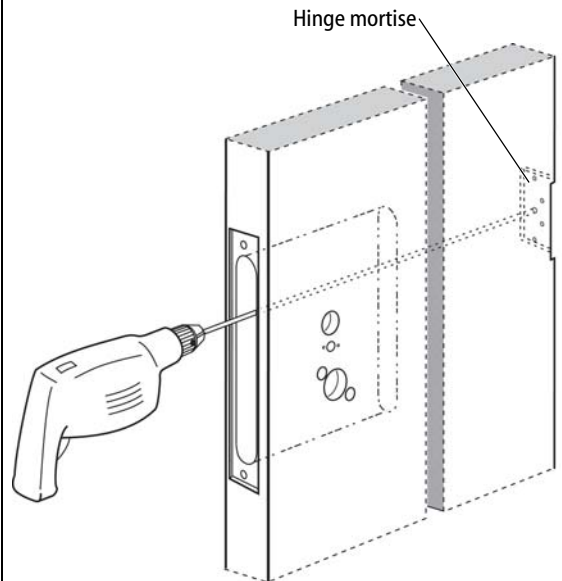

Figure 3 Drilling the wire channel through the door
- 2 Using a 3 to 4 foot drill bit, drill a 3/8" diameter channel through the upper back of the mortise cavity to the center of the nearest hinge mortise. See Figure 3.